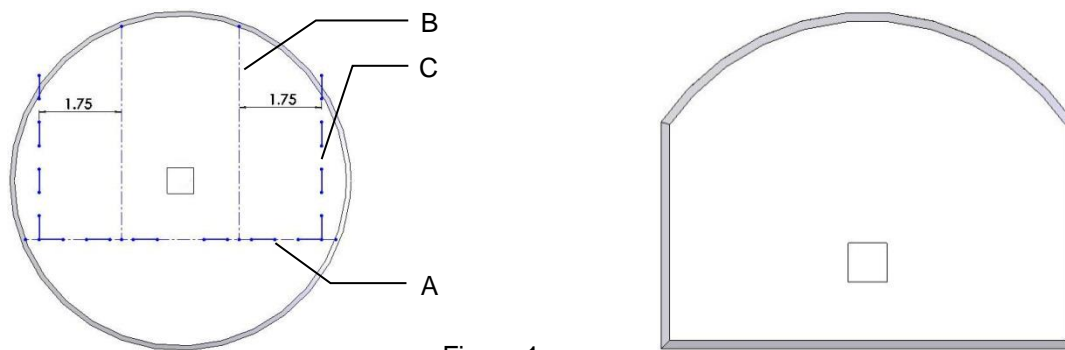

Figure 1
1. Both moisture discs (006-4641H) will need to be cut along the serrated line (A) shown on Figure 1. Measure from the laser etched line (B) 1 3/4" on both side. Mark and cut the disc. A completed disc is shown to the right.
4. Mark a line 1 1/2" up and 3 1/2" over from point D. Drill a 3/4" hole at the point (E). Repeat for the opposite side.